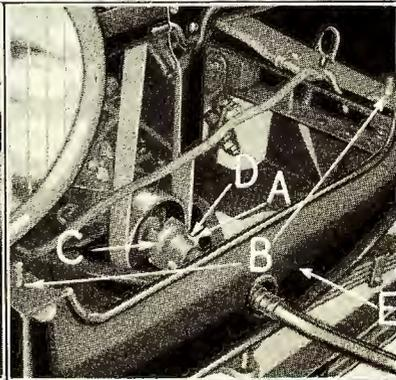
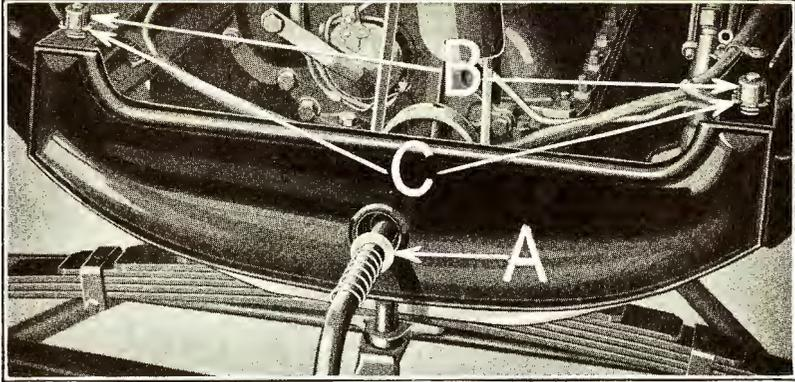

Fig. 530
Fig. 531
- 1132 Remove starting crank ratchet pin (see "A" Fig. 530) by withdrawing cotter key "D" and driving the pin out of the ratchet with a hammer and drift. Ratchet "C" can then be withdrawn from end of starting crank.
1133 Withdraw starting crank together with radiator apron spacer (see "A" Fig. 531). Radiator lower thimbles "B", stud springs "C", and radiator apron can now be lifted off over ends of radiator studs.
- 1146 Position radiator apron (see "E" Fig. 530) over ends of radiator studs "B". Place radiator apron spacer over end of starting crank (see "A" Fig. 531). Insert starting crank through radiator apron and starting crank sleeve. (It is very important that the radiator apron spacer is installed, as the spacer holds the crank firmly in the sleeve and prevents any possibility of a rattle.) Position starting crank ratchet over end of crank (see "C" Fig. 530). Line up hole in ratchet with hole in crank and insert starting crank ratchet pin (see "A" Fig. 530) through ratchet and crank. The pin is locked in position by means of a cotter key which is inserted through end of pin as shown at "D".
- 1147 Position springs (see "C" Fig. 531) and lower thimbles "B" over ends of radiator studs.